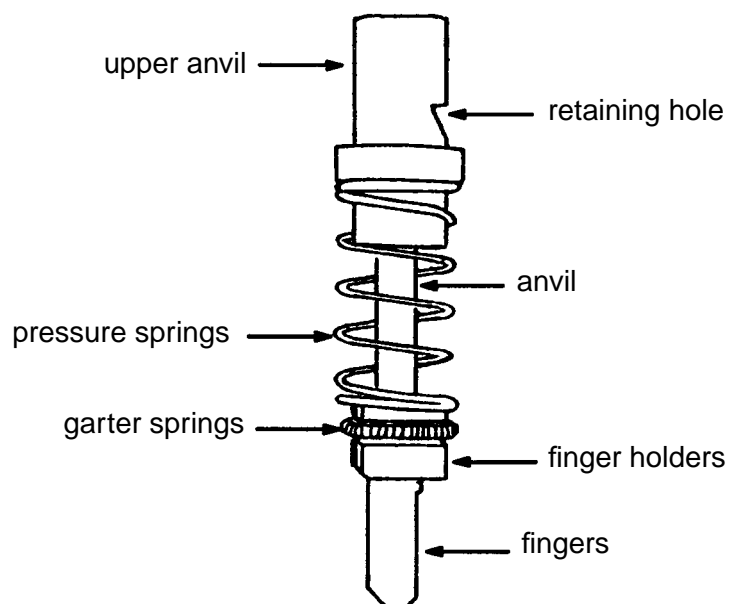

Figure 3 - Upper Anvil Assembly
Step 2. Assemble the upper anvil as shown in Figure 3. Ensure that the locating pins of the anvil are aligned in the anvil holder and fingers so that the finger opening will face the rivet hopper. Ensure that the spring on the rivet injector of the hopper is between the rivet fingers.